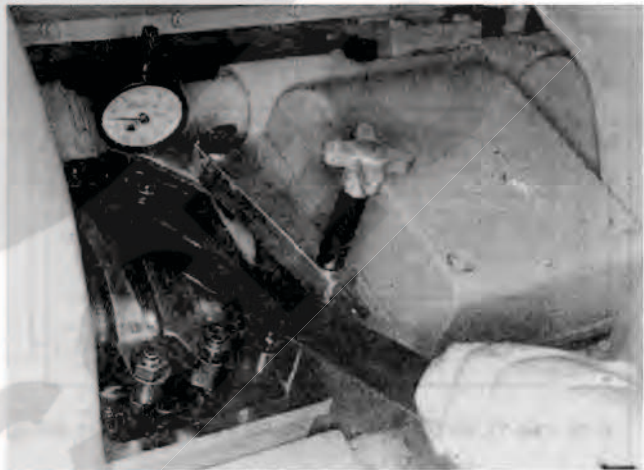

Fig. 2-36, (K21921). Bottoming injector plunger in cup
3. Using the rocker lever actuator, Fig. 2-36, depress the lever toward the injector until the plunger is bottomed in the cup to squeeze the oil film from the cup. Allow the injector plunger to rise, bottom again, hold in the bottom position and set the